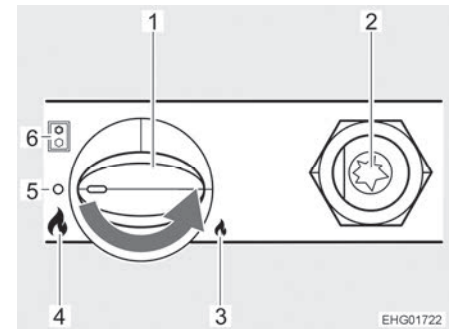

Fig. 129 Operating and display elements (VW base vehicle)
- Press the control knob (Fig. 127,4 or Fig. 129,1) and turn it to the "largest flame" position (Fig. 127,6 or Fig. 129,4).
- Keep the control knob pressed and press the button for electronic ignition (Fig. 127,3 or Fig. 129,2).
- Turn the control knob to the desired position between the "smallest flame" (Fig. 127,5 or Fig. 129,3) and "largest flame" (Fig. 127,6 or Fig. 129,4).
- Turn the control knob (Fig. 127,4 or Fig. 129,1) to the 0 position (Fig. 127,2 or Fig. 129,5).